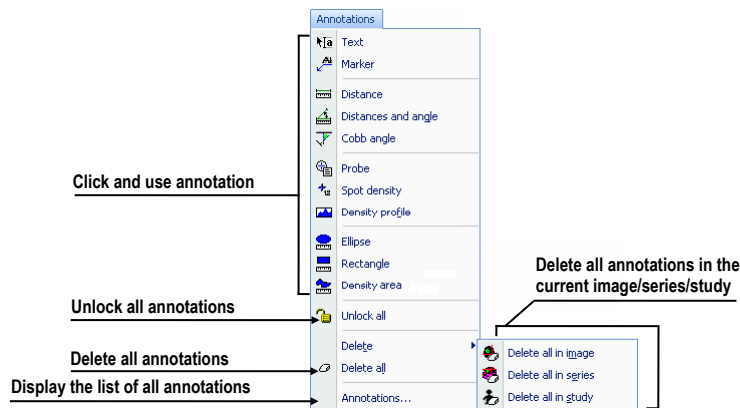

Figure 39 – Annotations menu
- **Annotations** – the function for annotation management in TomoCon. It allows you to create each type of annotation or measurement in the current view and to remove or edit selected annotation (see Figure 39).